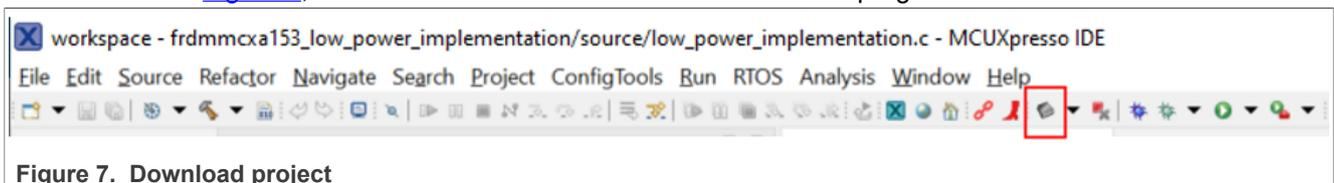

Figure 7. Download project
2. As shown in Figure 7, select the **GUI Flash Tool** from the toolbar to program the executable to the board.